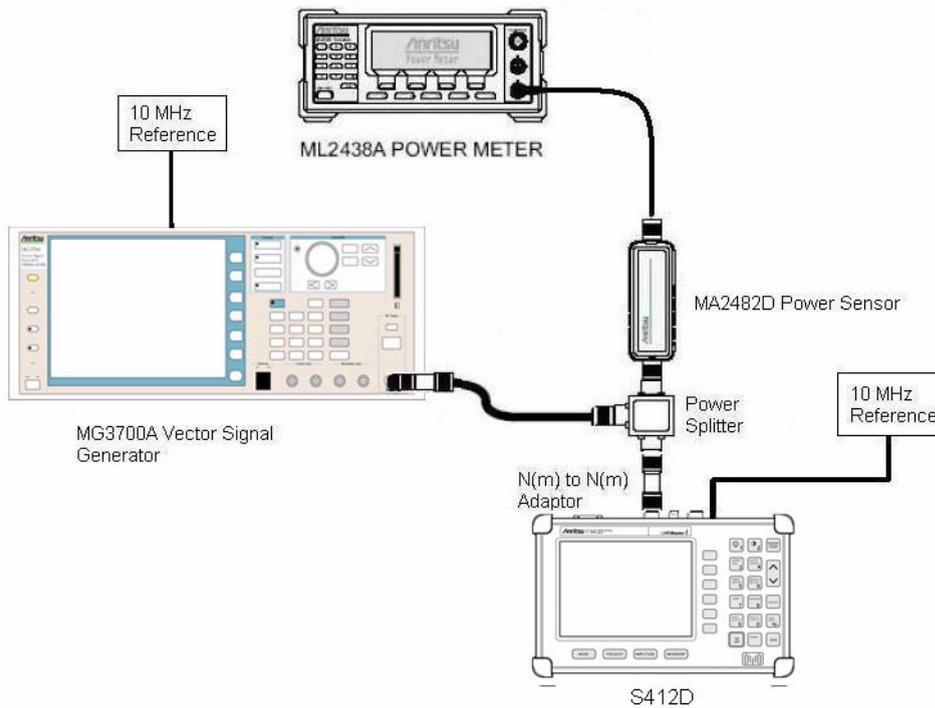

Figure 2-5. iDEN Signal Analyzer Setup
1. Connect the equipment as shown in Figure 2-5. Ensure that the external 10 MHz reference is connected to both the 10 MHz Ref input of the MG3700A and the Ext Freq Ref input of the MT8212B.